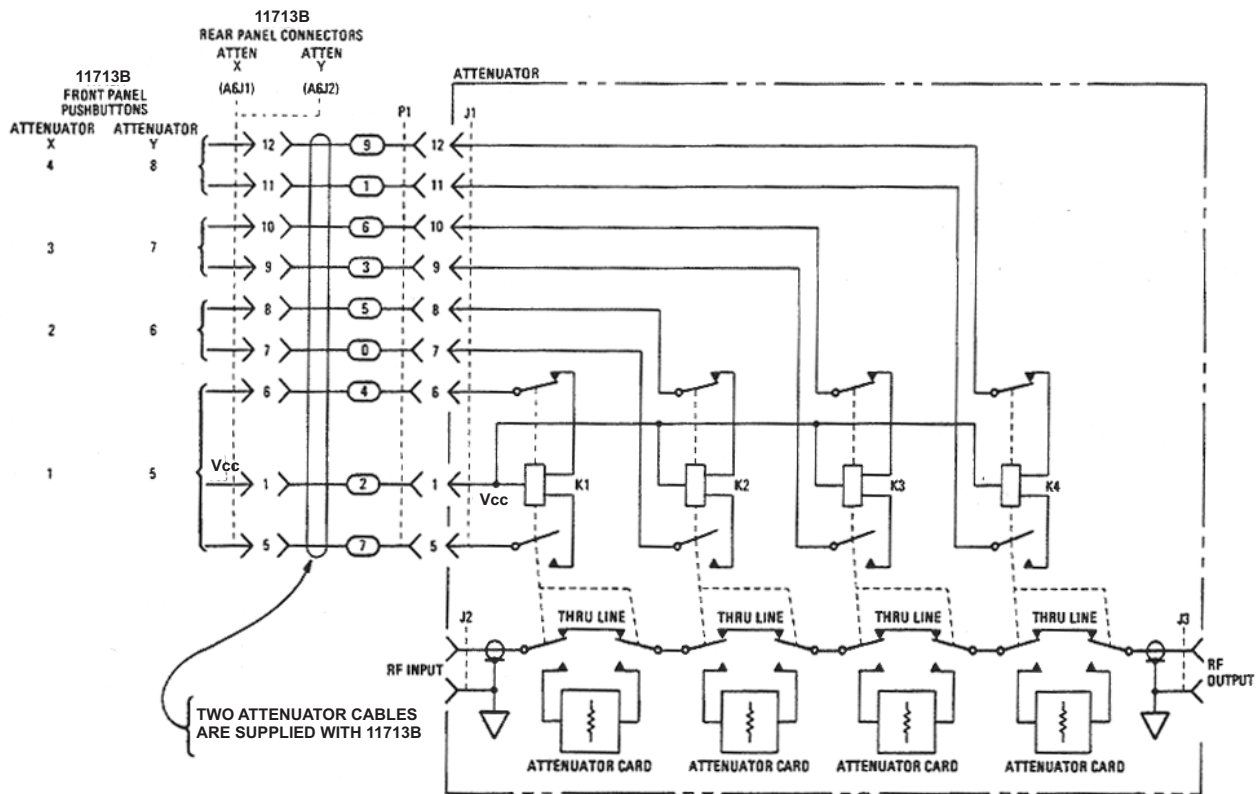

Figure 8 Typical connection for a programmable four-section attenuator
- A typical connection for a programmable four-section attenuator to 11713B is illustrated in Figure 8, together with pin number for each connector.
- Connections to Agilent 8762 or 8765 series coaxial switches can also be made to the ATTEN X output or ATTEN Y output as illustrated in Figure 8.